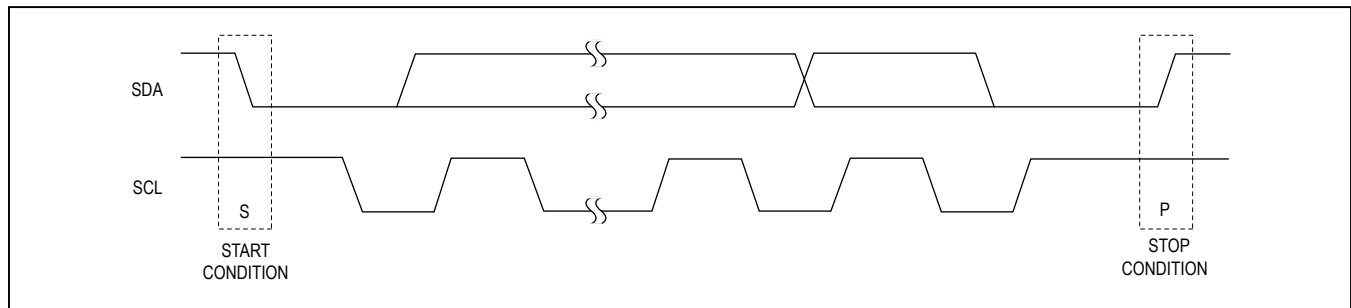

Figure 4. START and STOP Conditions
Both SCL and SDA remain high when the interface is not busy. A controller signals the beginning of a transmission with a START (S) condition by transitioning SDA from high to low while SCL is high (Figure 4). When the controller has finished communicating with the target, it issues a STOP (P) condition by transitioning SDA from low to high while SCL is high. The bus is then free for another transmission.